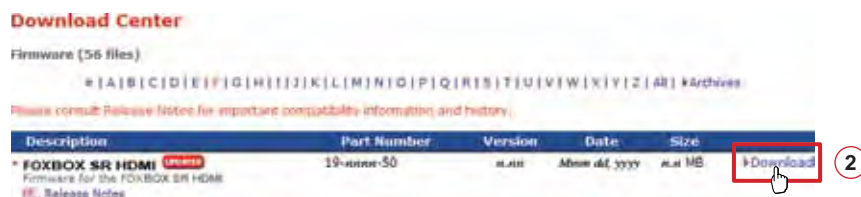

Figure 27. Finding Scaling Receiver Firmware
2. On the Download Center screen (see figure 27), click the link for the appropriate firmware file.